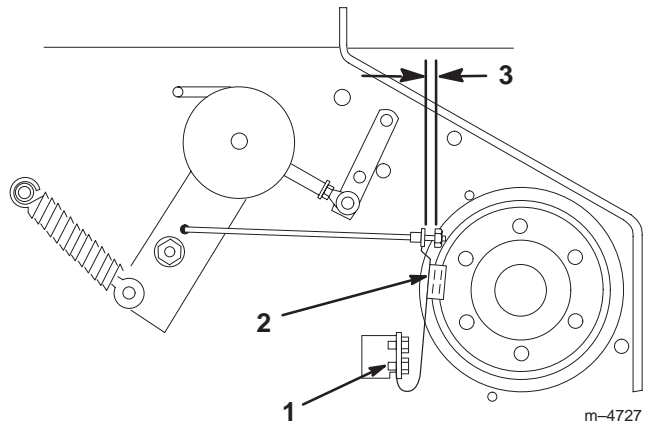

Figure 46
3. If necessary, adjust the spring mounting bolts so that the blade brake pad rubs against the pulley edges (Fig. 46).
4. Adjust the nut at the end of the blade brake rod until there is 1/8–3/16 in. (3–5 mm) between the nut and the spacer (Fig. 46).